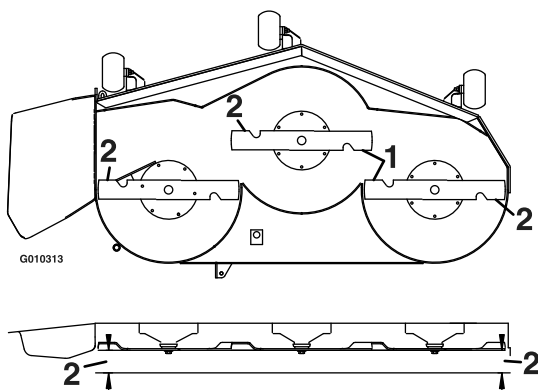

Figure 24
6. Measure between the outside cutting edges and the flat surface (Figure 24). If both measurements are not within 3/16 inch (5 mm), an adjustment is required; continue with this procedure.
9. Carefully rotate the blades side to side (Figure 24).